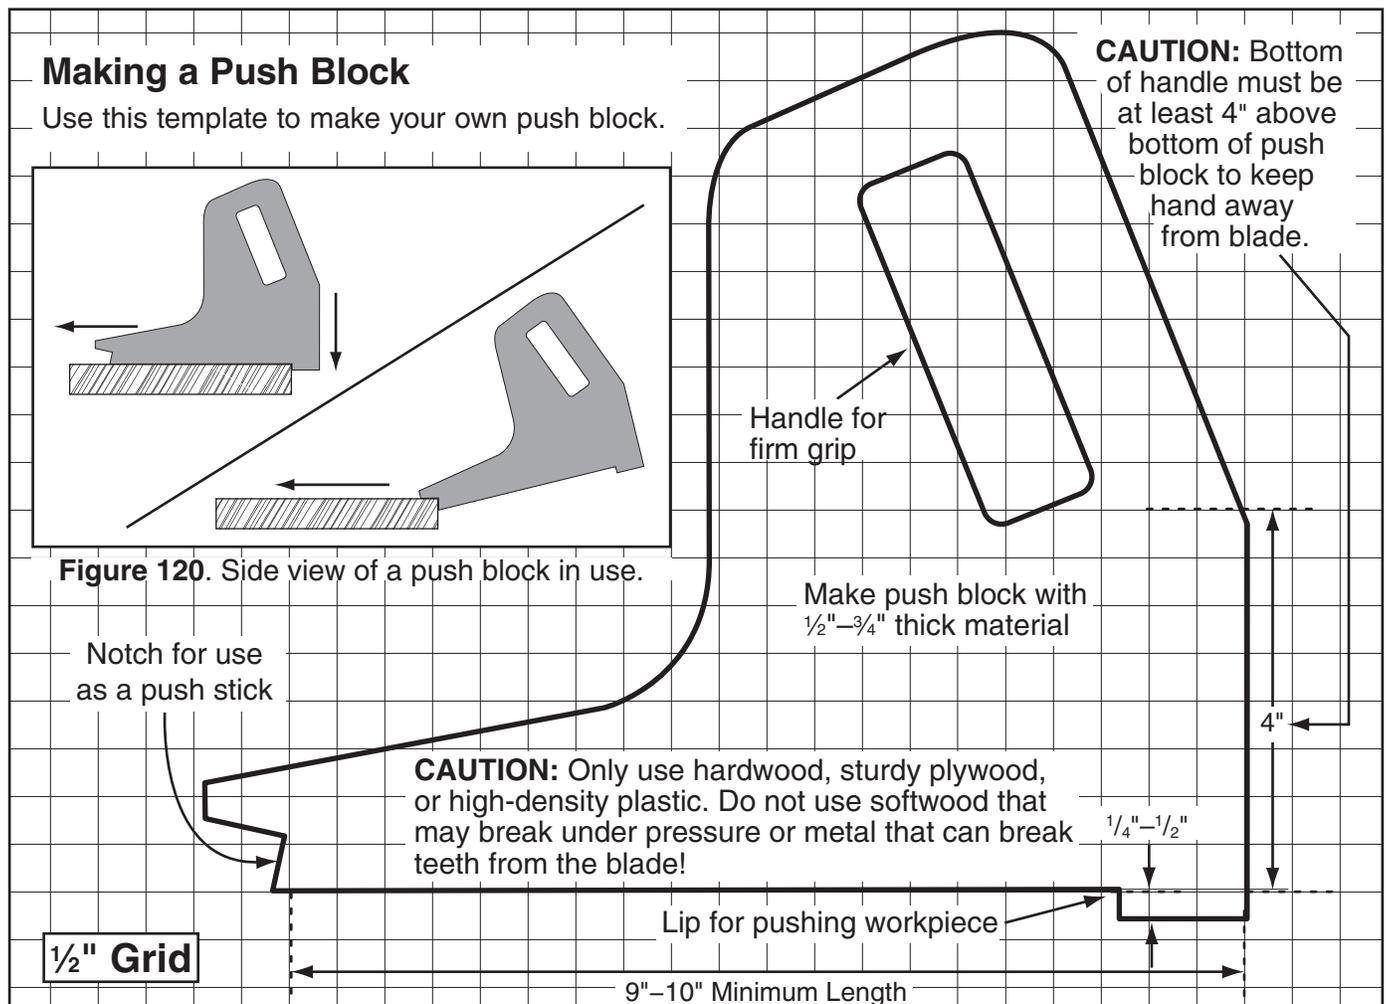
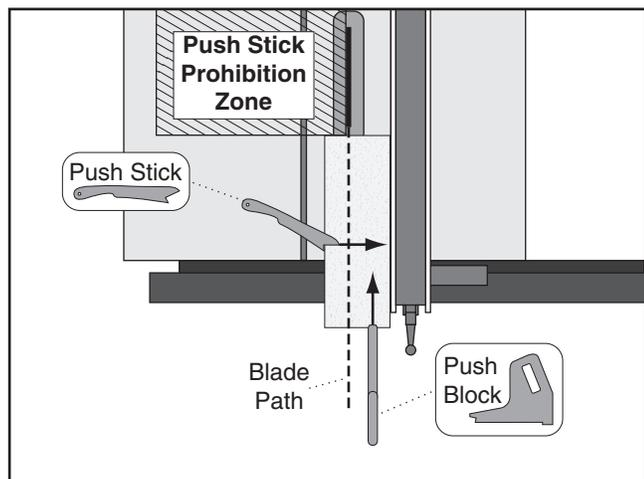

Figure 122. Template for a shop-made push block (shown at 50% of full size).
Figure 123. Example of using a push block to feed a workpiece into the blade.
1. Place the lip of the push block (**Figure 122, Page 63**) against the end of the workpiece, and use steady downward and forward pressure to push the workpiece into the blade. Use a push stick to apply sideways pressure on the workpiece to keep it held firmly against the fence, as shown in the example of **Figure 123**.
2. As the workpiece nears the end of the cut, release the push stick just before the blade, (see **Figure 123**).